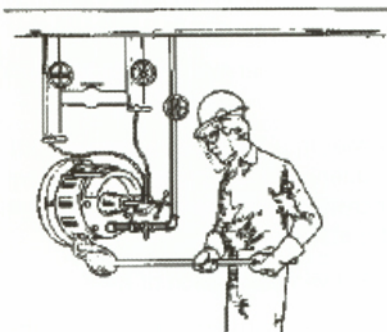

Figure 50 Just before light-off, check the draught with the torch and think: Furnace purged? All fuel valves closed? Draught fans running? Dry drum drained?
- Remember that a strong wind increases draught at upwind burners, so it is best to light them first. After lighting the torch, *stand to one side* and check the draught by holding the torch in front of the air registers of the burner to be lighted (Figure 50). A draught will pull smoke from the torch into the firebox.